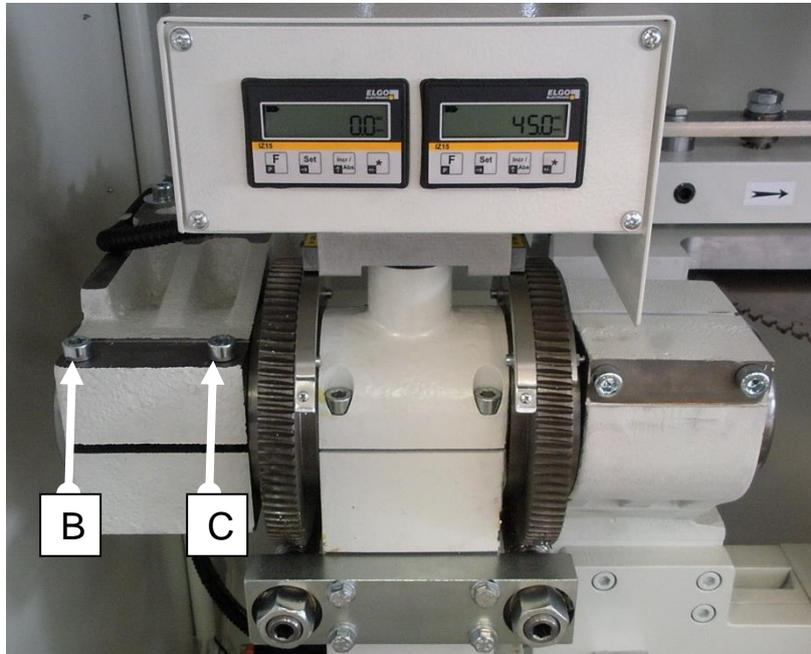

FIG.8
- Loosen the 2 screws B and C (Fig.8) with the help of service spanners
- lock screws B and C (Fig.8) with the screw.